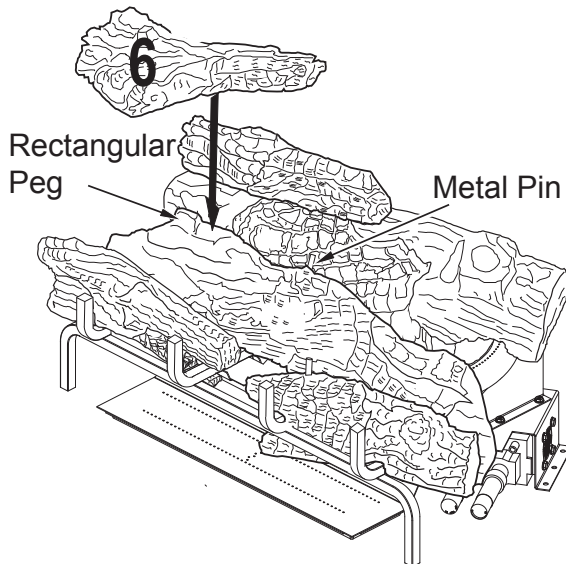

Figure 27 - Installing Log #6
- Place the left top forked log (#6) on the top of the middle log (#2). Match the rectangular projection on top of the middle log (#2) with the rectangular hole on the bottom of the left top forked log (#6). Match the metal pin on the top of the middle log (#2) with the round hold in the bottom of the left top forked log (#6). See **Figure 27, Page 17**.